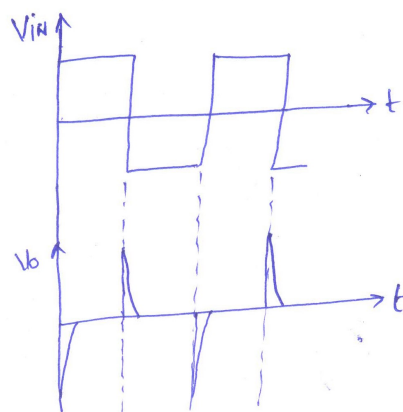

Fig.5.22
- If input of differentiator is square wave then output is spike wave as shown in Fig.5.22